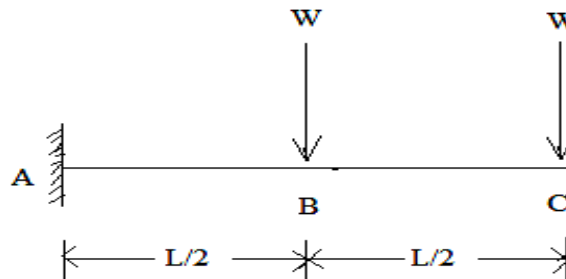

Figure.1
- 2.a) Draw the S.F.D & B.M.D of the cantilever beam as shown in Figure.1.